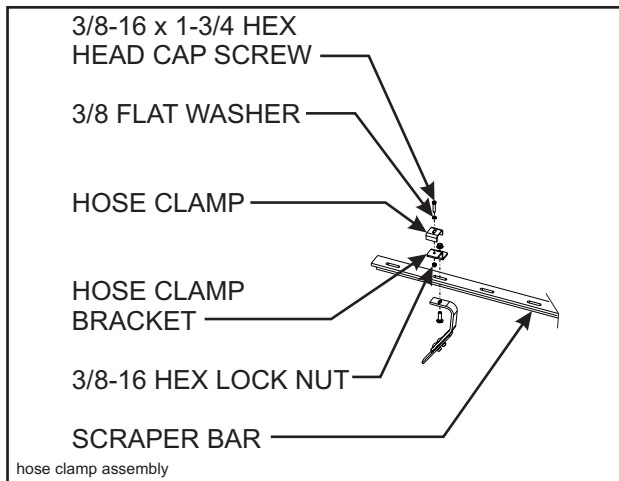

Figure 3-22 Hose Clamp Assembly
- 3-11.10 Attach hose clamp brackets to the second slotted hole in each scraper bar from the hinge joint (**See Figure 3-22**). On 30' - 36' units, attach a hose clamp in the second hole from the center of the machine on the right front center gang scraper bar. Secure hoses to the brackets with hose clamps, 3/8-16 x 1-3/4 hex head cap screws, and hex lock nuts.